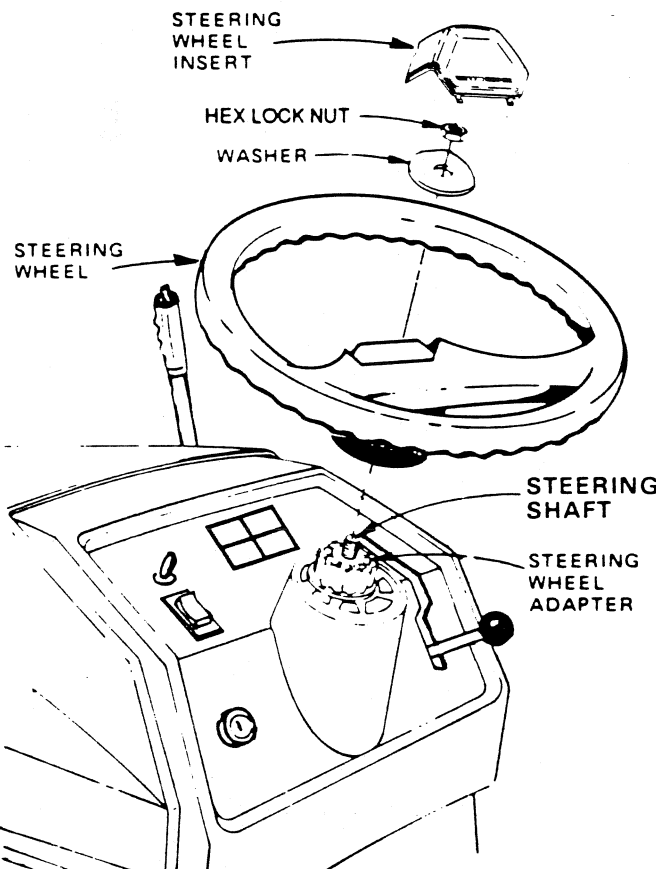

FIGURE 5
- Use 3/4" wrench to remove Hex Locknut and 2-1/4" Dia. Washer from Steering Column (Fig. 5).
- Secure Steering Wheel to Steering Column using 2-1/4" Dia. Washer and Hex Nut (Fig. 5). Torque to 50 ft.-lbs.